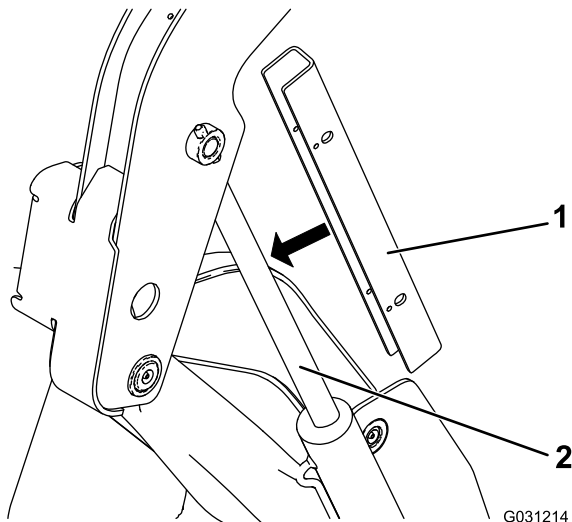

Figure 35
5. Slide the cylinder locks over the lift-cylinder rod (Figure 35).